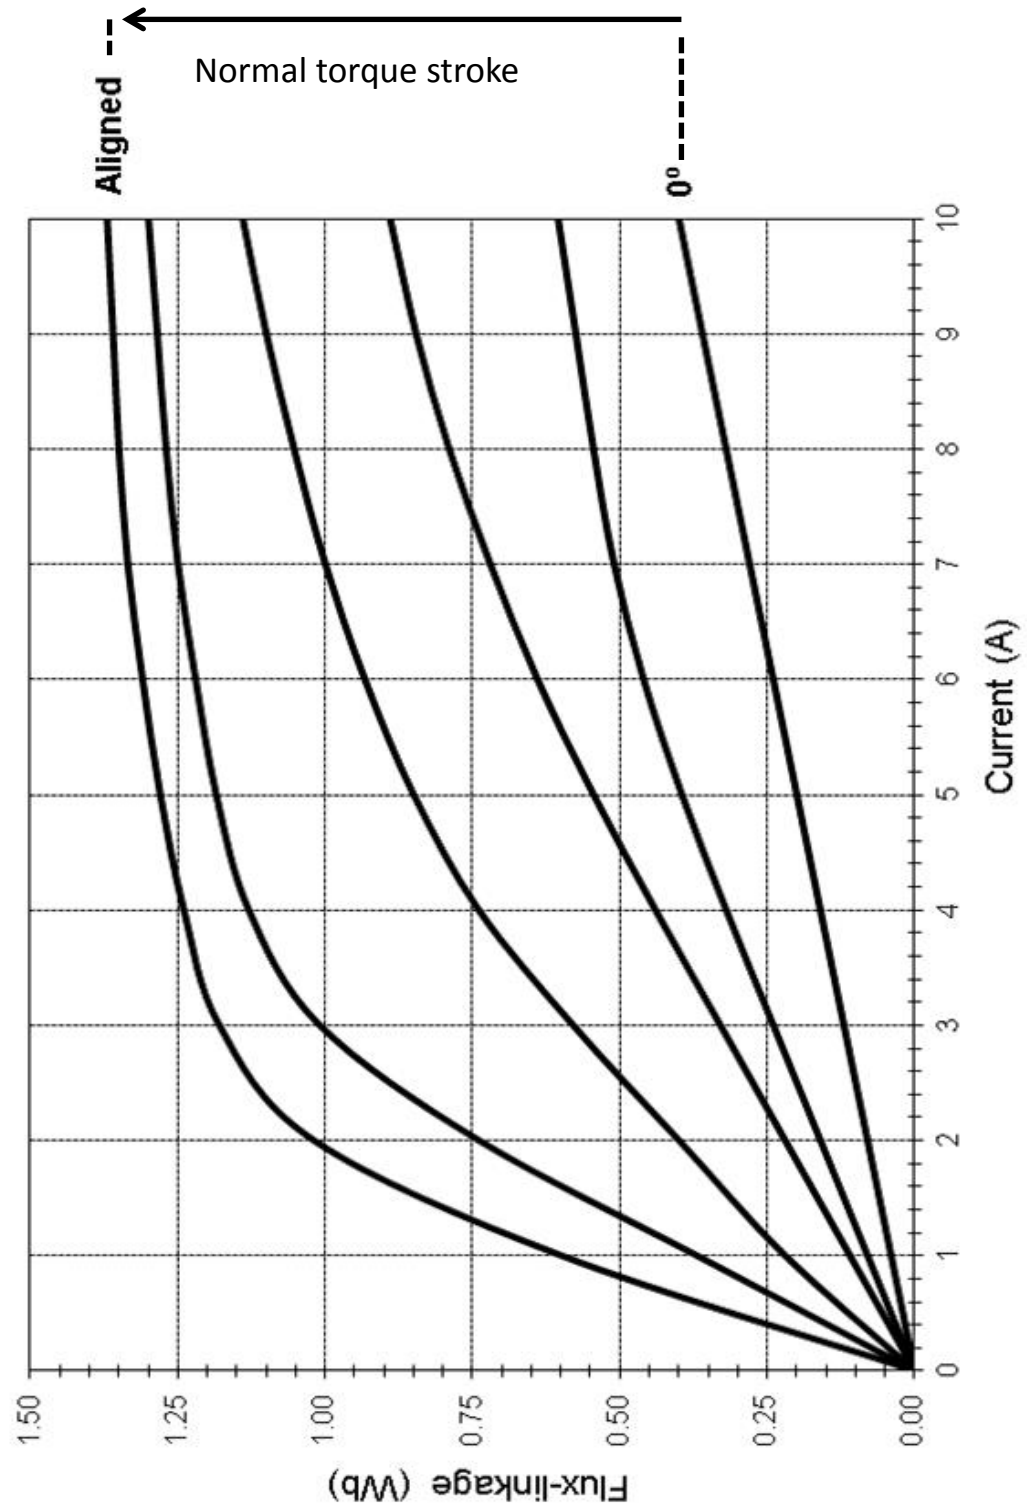

Figure 3 Measured flux-linkage versus current characteristic for a 3-phase, 12-8 switched reluctance machine
- Draw an equivalent circuit for this machine, taking care to include numerical values for all circuit elements. (3)
- iv) The efficiency of the motor. (10)
- c. Briefly describe with the aid of appropriate diagrams, why single phase induction motors do not produce any starting torque in their most basic configuration. (3)
- d. Describe one method which can be employed to produce starting torque in a single-phase induction motor. Include in your answer an explanation of the function of any additional components and a *sketch* of a representative torque speed curve, taking care to label any key features. (4)
3. A low-speed, three-phase switched reluctance machine has 12 stator teeth and 8 rotor teeth. The 4 coils which make up a phase are series connected. Figure 3 shows the measured variation in the flux-linkage of one phase with coil current at a series of discrete rotor angular displacements which correspond to the stroke during which the phase is normally excited to produce torque. The curves are equally spaced in terms of angular displacement intervals.